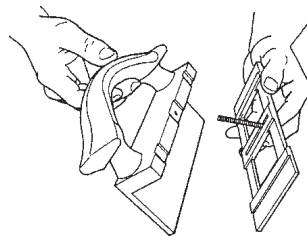

Figure A-4
15. See the exploded view on Page 3. Unscrew the fence straddler's knob (32) and remove the washer (34), machine screw (33), and slide rail (31) from the fence straddle block (30).
16. Transfer the slide rail (31) to the other side of straddle block and reassemble with the screw, washer and knob, as shown in Figures A-4 and A-5.